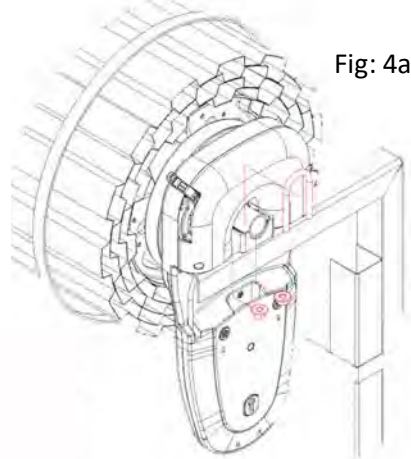

Fig: 4a
- j) Locate the Drive unit on the bracket and fit 'U' bolt provided in the fitting kit. Tighten the 'U' bolt with two nuts provided (*Fig 4a*).